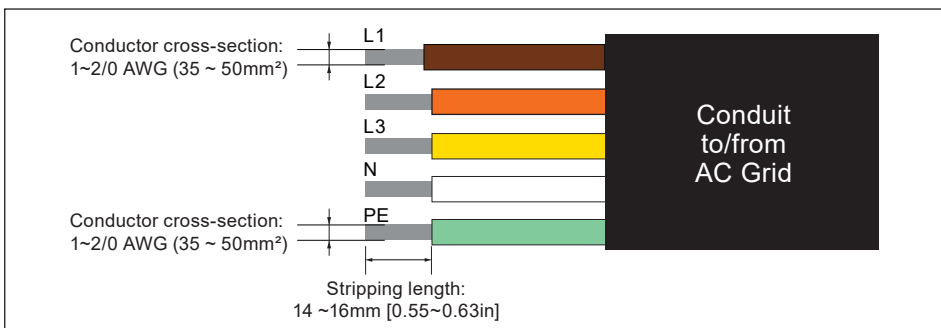

Figure 3-17: Size for AC conductors
- Ensure the AC conductors used are sized to the correct ampacity per NEC or other local code. Refer to **Figure 3-17**.
Ensure the AC conductors used are sized to the correct ampacity per NEC or other local code. Refer to **Figure 3-17**.
Refer to **Figure 3-17** in **Section 3.3** for the procedure to prepare AC conductors for connection to the AC terminals (M80/60U₁₂₁) :
Refer to **Figure 3-17** in **Section 3.3** for the procedure to prepare AC conductors for connection to the AC terminals (M80/60U_122) :